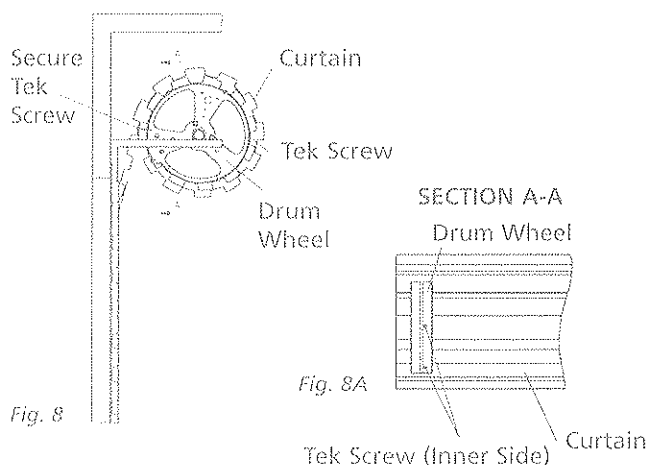

Fig. 8
- w) **Final Security** - Fully close the door, mark the corrugation just before the Curtain leaves the top roll, drill through the Curtain and the Drum wheel rim and apply a 'pop rivet' or self tapping screw. This must be done at both ends of the door (Fig. 8).